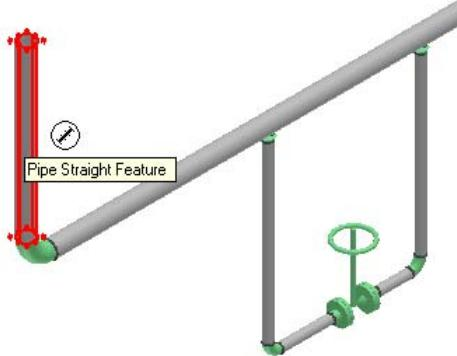

Figure 35: Pipe Straight Feature
28. Now, position the cursor along the **Pipe Straight Feature**, as shown in Figure 35 and click to define the active placement point.